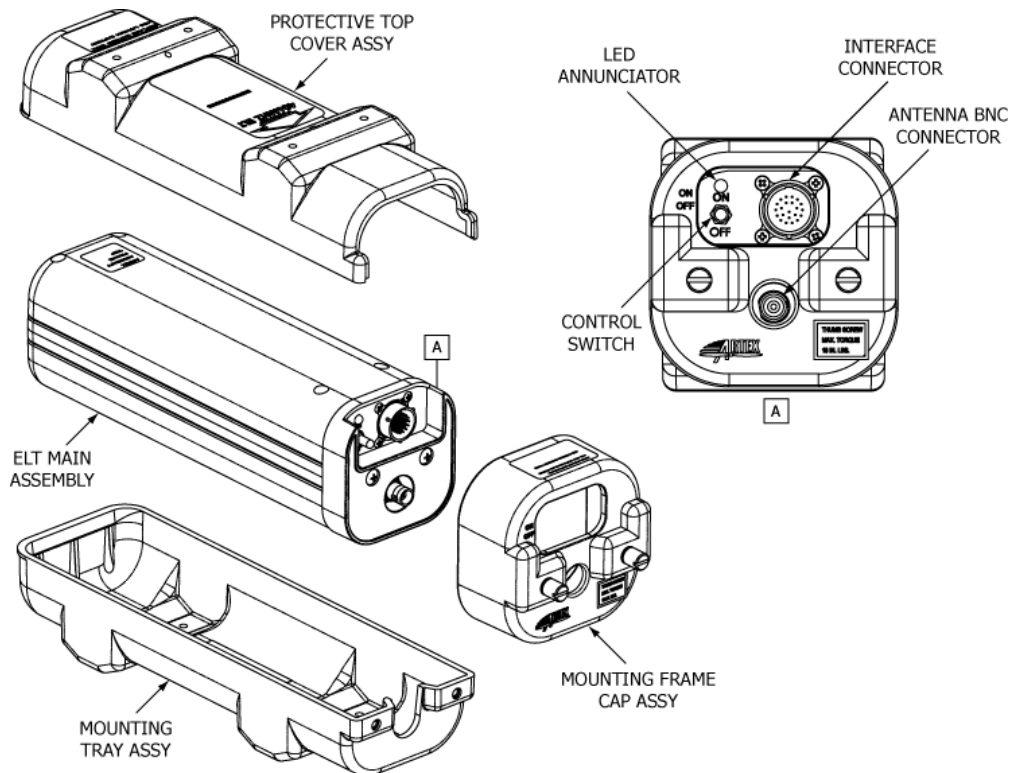

Figure 2 C406-N Series ELT and Mounting Frame Assembly
- 1) The C406-N Series ELT main assembly is housed in a high impact, fire resistant, polycarbonate plastic case, which is enclosed in a protective mounting frame assembly made of similar material. See Figure 2 C406-N Series ELT and Mounting Frame Assembly.